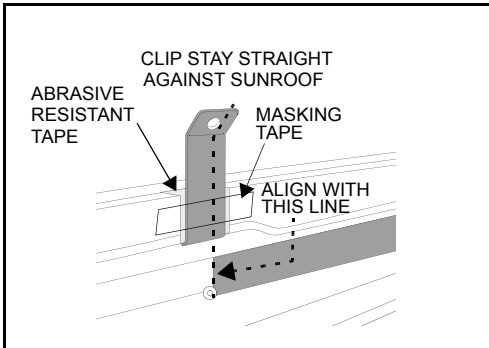

Figure 9.
9. Reinstall the clip in its original position, using the masking tape to hold the clip. The clip should stay straight against sunroof opening wall. Repeat for the other side. Figure 9.